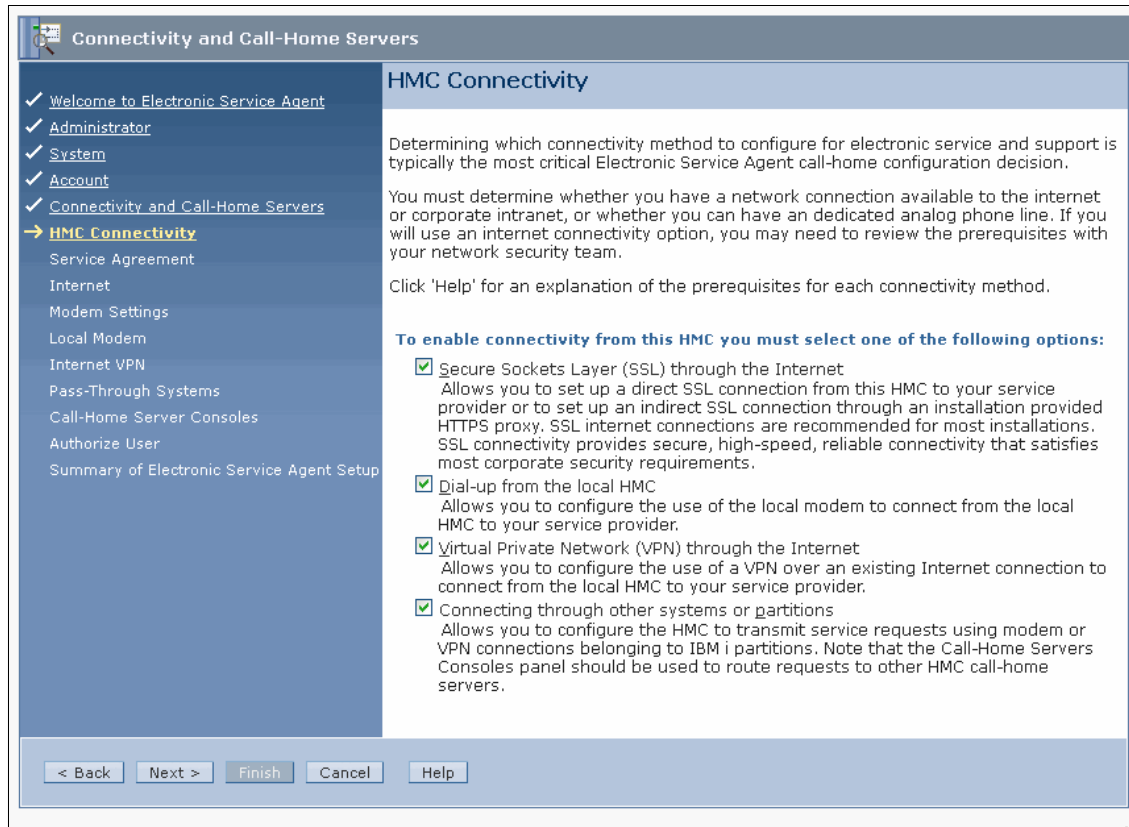

Figure 3-24 Call Home Setup Wizard: Configure Connectivity
32. Call Home Setup Wizard. The Configure Connectivity to Your Service Provider panel is now shown in Figure 3-24 on page 83.
Figure 3-24 shows the Call Home Setup Wizard: Configure Connectivity panel.